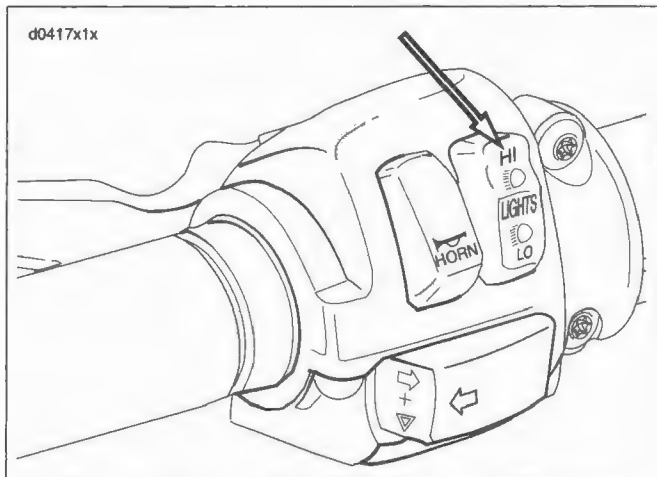

Figure 1-58. High Beam Setting
7. See Figure 1-58. Turn ignition switch ON. Set handlebar headlamp switch to HIGH beam position.